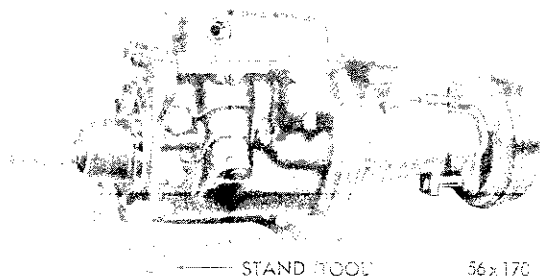

Fig. 9—Transmission Inverted in Repair Stand
(10) Remove the two lower transmission case to converter housing screws and lockwashers. Slide jack and transmission straight back to avoid damaging the front pump drive sleeve. After removing transmission from the vehicle, attach fixture, Tool C-3280, and invert transmission assembly, as shown in Figure 9.